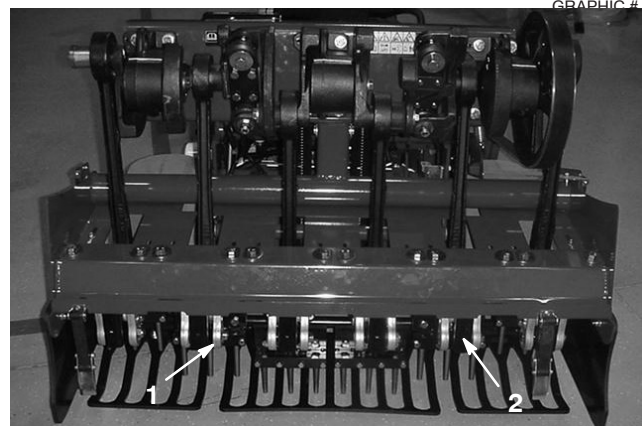

Figure 25
5. Install tines into the #2 and #5 tine holders (Fig. 25). Tighten the capscrews.